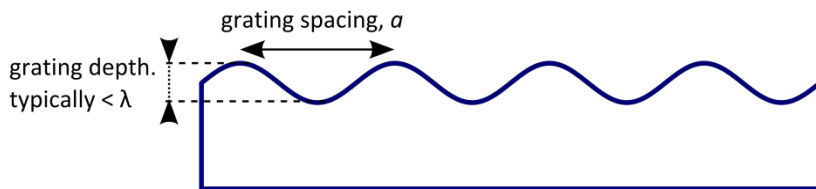

Figure 1: Zoomed in view of a the cross-section of a holographic grating.
The "grating equation" gives the relationship between the incident angle of the beam  $\theta_i$  and angle of the  $n$ -th order diffracted beam  $\theta_{r,n}$  for a particular wavelength of light  $\lambda$ , and grating spacing  $a$ . The grating spacing  $a$  is explained in Figure 1. The grating equation is given in Eq. (1):